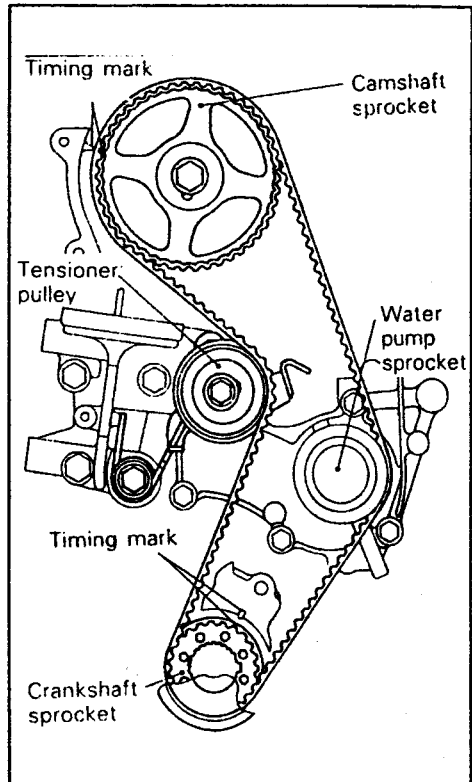
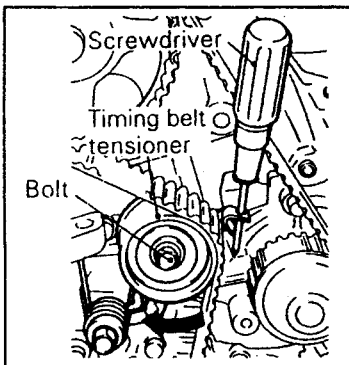

Fig. 1.4. — The timing marks of the 1.8 litre engine must be aligned as shown before the timing belt can be removed.
Fig. 1.5. — Turn the belt tensioner in the direction shown to slacken the tension.
- Rotate the engine until the piston of the No. 1 cylinder is at T.D.C. position. *The crankshaft must only rotated clockwise*. Check that the timing marks on camshaft sprocket and crankshaft sprocket are aligned as shown in Fig. 1.4. This will set the piston of No. 1 cylinder to the top dead centre position. Using a felt pen or chalk, mark a line across the timing belt to identify its fitted position. If the timing belt is to be refitted (after inspection), mark an arrow into the outside of the belt to indicate the running direction.
- Slacken the bolt in the centre of the belt tensioner (see Fig. 1.4) and, using a screwdriver in the manner shown in Fig. 1.5, push the tensioner pulley in the direction of the arrow